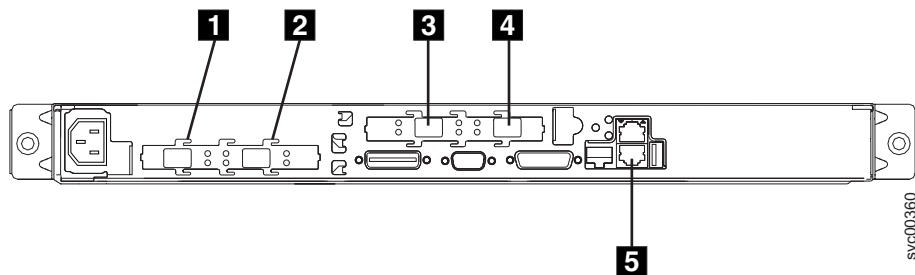

Figure 44. Connectors at the back of the SAN Volume Controller 2145-4F2
1. Connect the Ethernet cable to Ethernet port 1 **5** in Figure 44.